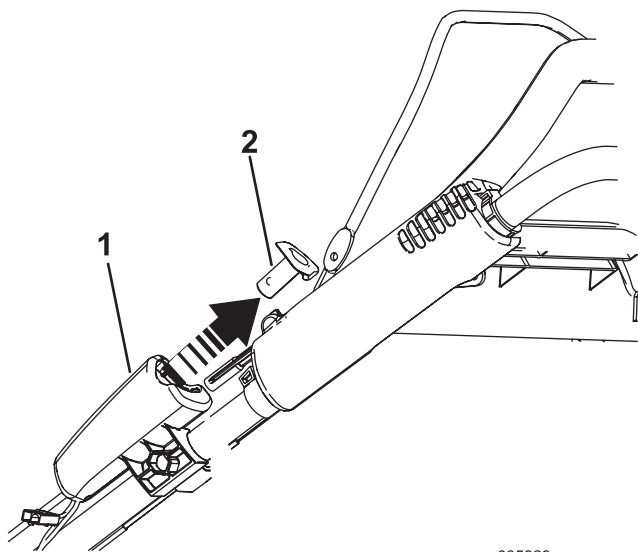

Figure 26
1. Remove the electric-start button (Figure 26).